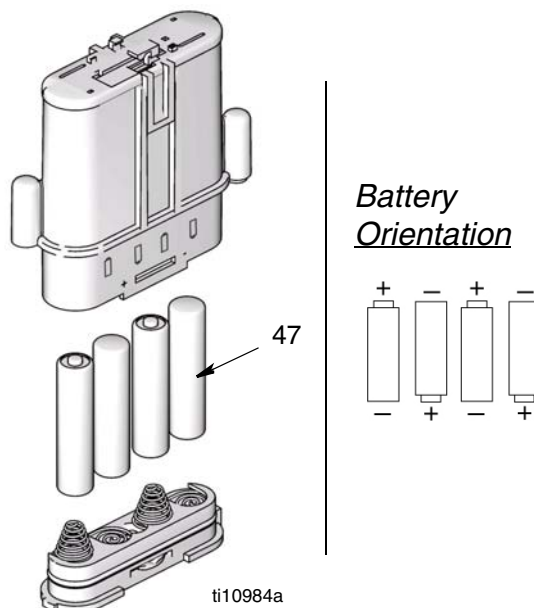

FIG. 37
<ul style="list-style-type: none"> Only use the size and type of batteries specified in this manual. <p>Batteries required to meet life expectancy:</p> <ul style="list-style-type: none"> Energizer E91 <ul style="list-style-type: none"> Be sure to follow the correct polarity when installing batteries in the battery compartment (FIG. 37). Reversed batteries may damage this meter. <ul style="list-style-type: none"> Do not mix different types of batteries together or old batteries with fresh ones. Always replace all 4 batteries with 4, fresh, new batteries.
3. Install new batteries. See FIG. 37 for battery orientation.